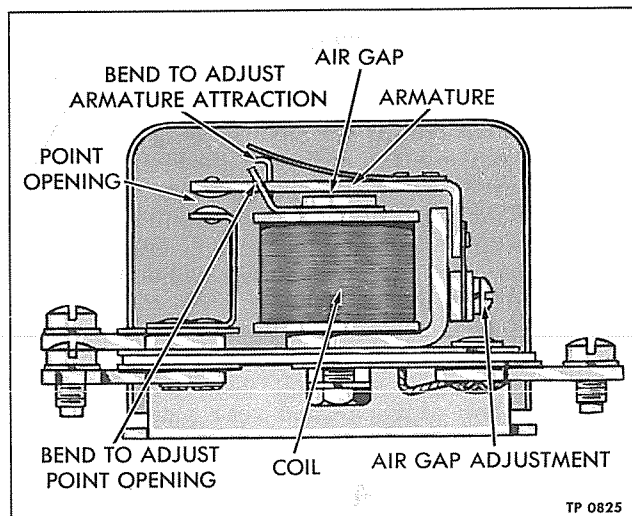

Figure 7—Reverse Solenoid Relay
Reverse Solenoid and Relay (Figs. 7 and 8)
REVERSE SOLENOID RELAY ADJUSTMENT (Fig. 7)
3. Measure point opening. Correct setting is .035 inch. If necessary to change point opening, bend stop as indicated in figure 7.
4. Measure air gap between armature and relay coil core. Air gap should be .012 inch with points closed. If necessary to change air gap, loosen air gap adjustment screws (fig. 7) and move armature up or down as required. If necessary, align support carrying lower contact so that air gap will be uniform between core and armature.